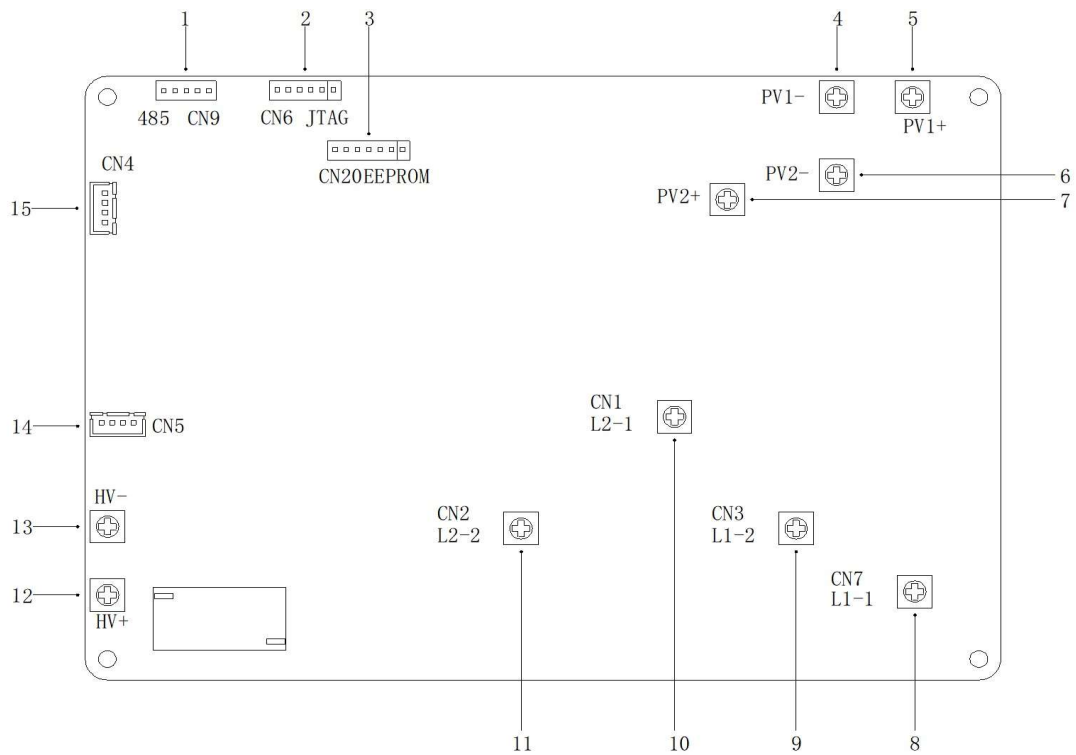

Figure 6-4
6.2.3 The booster plate is shown in Figure 6-4 below.